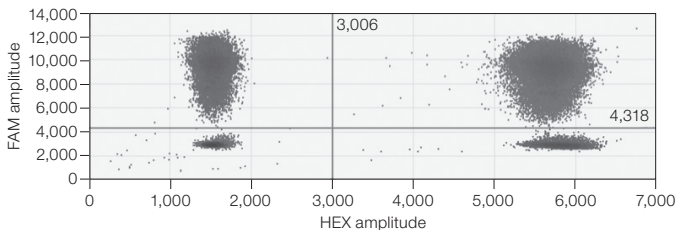

Fig. 1. Universal threshold set across all wells.
5. Click the **2-D Amplitude** tab and set a universal threshold for the selected wells by manually applying a multiwell threshold between the positive and negative droplets as shown in the amplitude plot of Figure 1. Refer to the QX100 or QX200 Droplet Reader and QuantaSoft Software Instruction Manual (#10026321 or 10031906, respectively) for more information on thresholding.